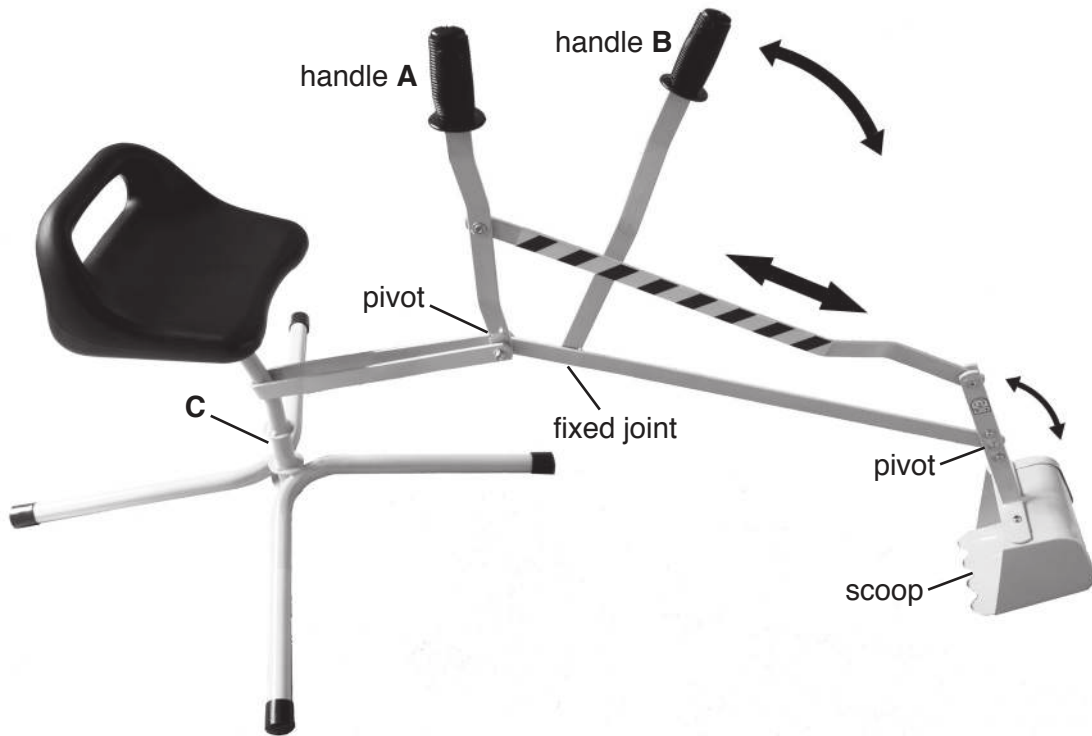

Fig. 11
- 10 Fig. 11 shows a 'sit-on' toy digger for a child. The digger is operated by two levers, **A** and **B**. Lever **A** controls the angle of the scoop and lever **B** will raise and lower the scoop.